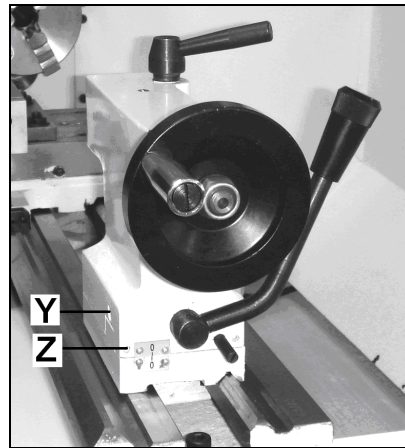

Fig 14
To offset the tailstock, loosen the locking screws (Z, Fig 14) and use screws (Y) to adjust.